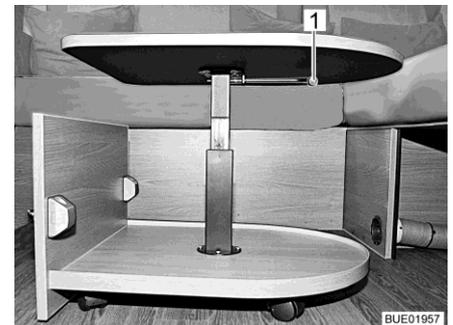

Fig. 128 Coffee table, extended
- Turn the catch lever (Fig. 128,1) 90° downwards.